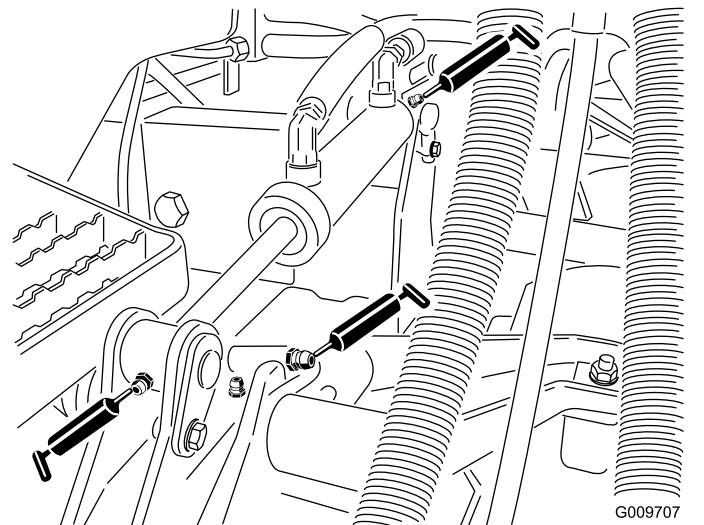

Figure 84
- Lift-arm bushings (1 per cutting unit) as shown in Figure 84
- Lift-cylinder bushings (2 per cutting unit) as shown in Figure 84